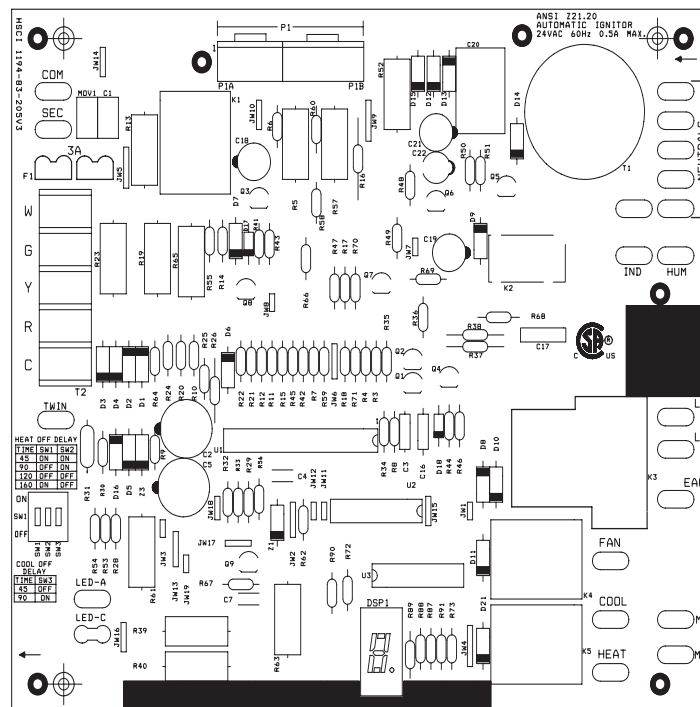
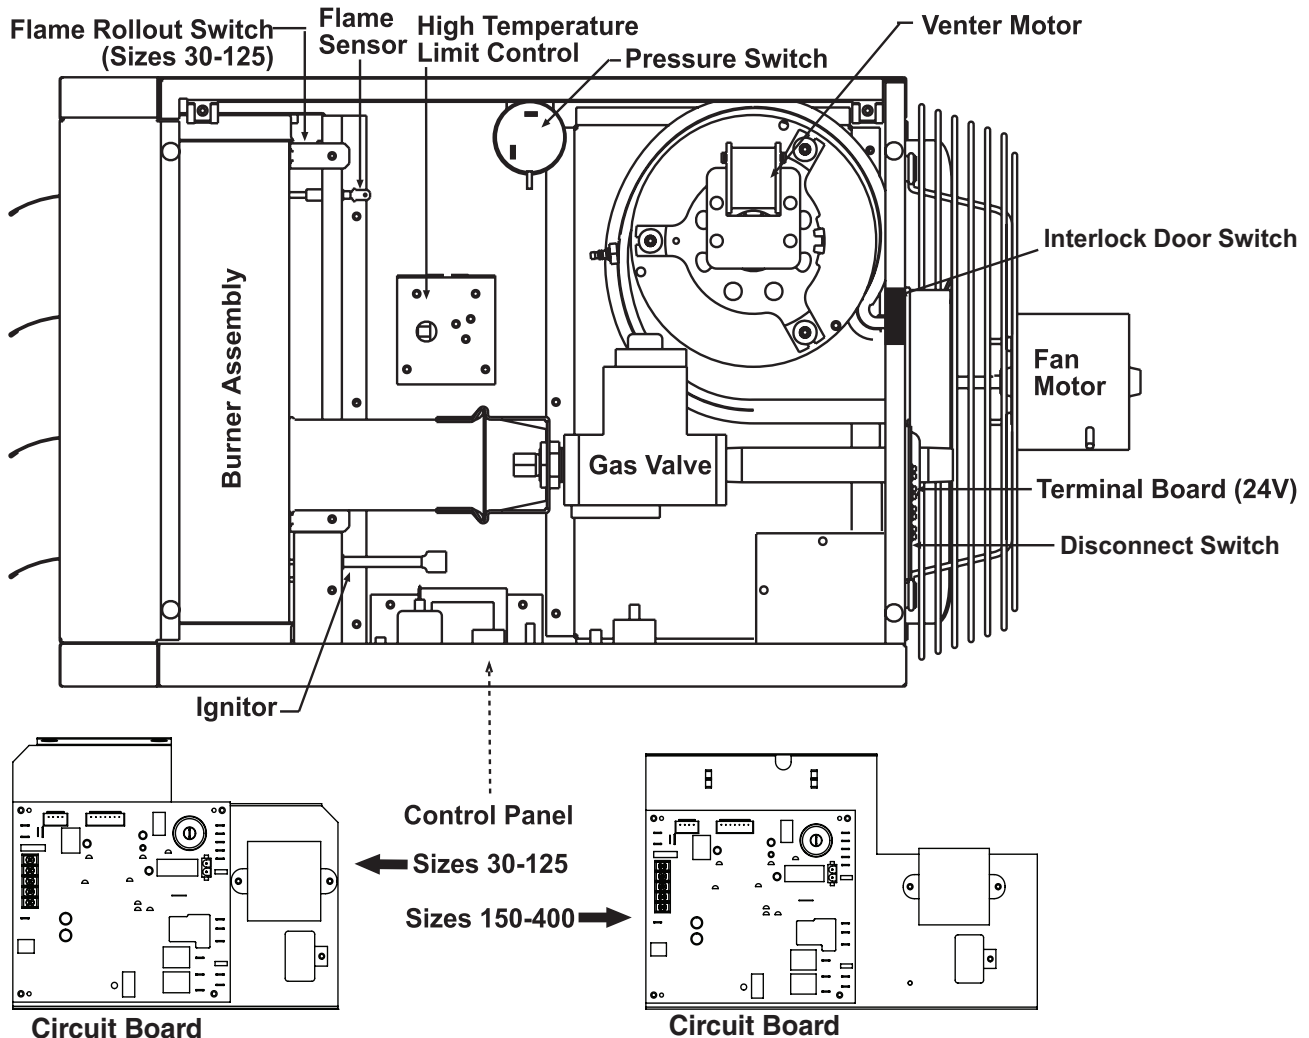

Figure 10. Circuit Board (DSI Control Module)
Figure 11. Component Locations (Typical)
- The circuit board (see **Figure 10**) is located inside on the bottom of the control compartment. The circuit board is polarity sensitive. It is advisable to check the electrical supply to ensure that the black wire is the hot wire and that the white wire is the neutral wire. The hot wire must be connected to terminal L1 on the circuit board.
Locations for the following controls are shown in Figure 11.
- The pressure (combustion air proving) switch (see Figure 11 for location) is a pressure-sensitive switch that monitors air pressure to ensure that proper combustion airflow is available.
All units are equipped with a temperature-activated, automatic-reset high temperature limit control (see Figure 11 for location). The control is factory-set and is non-adjustable. If the setpoint is reached, the control interrupts the electric supply to the combination gas valve. This safety device provides protection in the case of motor failure or lack of airflow due to a restriction at the inlet or outlet.
Unit sizes 030–125 of UDX and UDZ models are equipped with a temperature-activated, manually-reset flame rollout switch (see Figure 11 for location). The switch is factory-set and is non-adjustable. If the setpoint is reached, the switch interrupts the electric supply to the gas valve. If the flame rollout switch activates, identify and correct the cause before resetting the switch.
All UBZ and UDZ model units are equipped with an interlock door switch (see Figure 11 for location) that prevents the heater from operating when the service door panel is open. The service panel is equipped with a pliable gasket that fully seals the door to provide added protection to prevent building air from entering the combustion zone of the heater.
The combination gas valve (see Figure 11 for location) is powered by the 24V control circuit through the thermostat and safety controls. The diaphragm-type valve is pre-set at the factory and provides regulated gas flow.
The venter motor (see Figure 11 for location) is assembled to the venter wheel and operates to provide combustion airflow. Operation is controlled by the circuit board (see Figure 10). Refer to the Circuit Board \(DSI Control Module\) section for details.
The heater's ignition system is controlled by a circuit board (Direct-Spark Integrated (DSI) control module, see Figure 10) that monitors the safety devices and controls the operation of the fan and venter motors and the combination gas valve between heat cycles. The module's Seven-Segment Display (SSD) is visible through a viewport on UBZ and UDZ models. To view the SSD on UBX and UDX models, the door panel requires removal. In addition, there is a status LED on the bottom of the heater. Its status indications are **off** (heater is not powered or control board fault), **steady on** (heater is on with no faults), or **flashing** (heater is on with fault(s)). Additional status indications appear on the display at the bottom of the control module (labeled as DSP1, see Figure 10). The display's codes are listed and described in the Unit Troubleshooting Using DSI Control Module section.